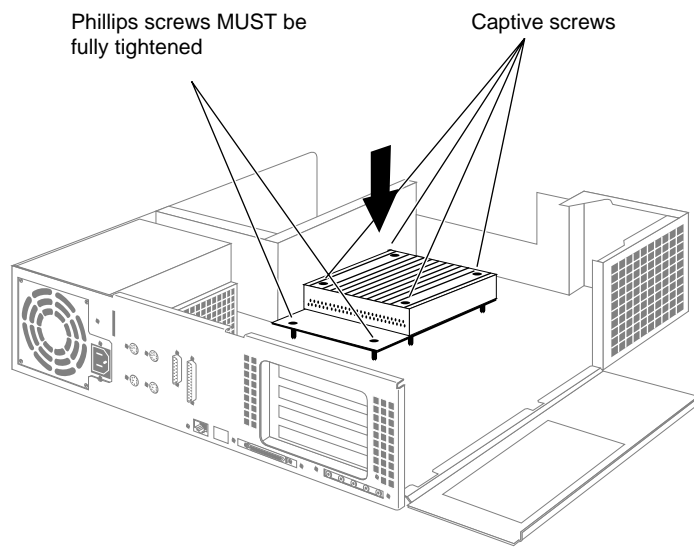

Figure 9-13 Installing New CPU Module
- Insert and tighten the Phillips screws shown in Figure 9-13 that attach the CPU to the system board.
- Tighten the captive screws, shown in Figure 9-13.